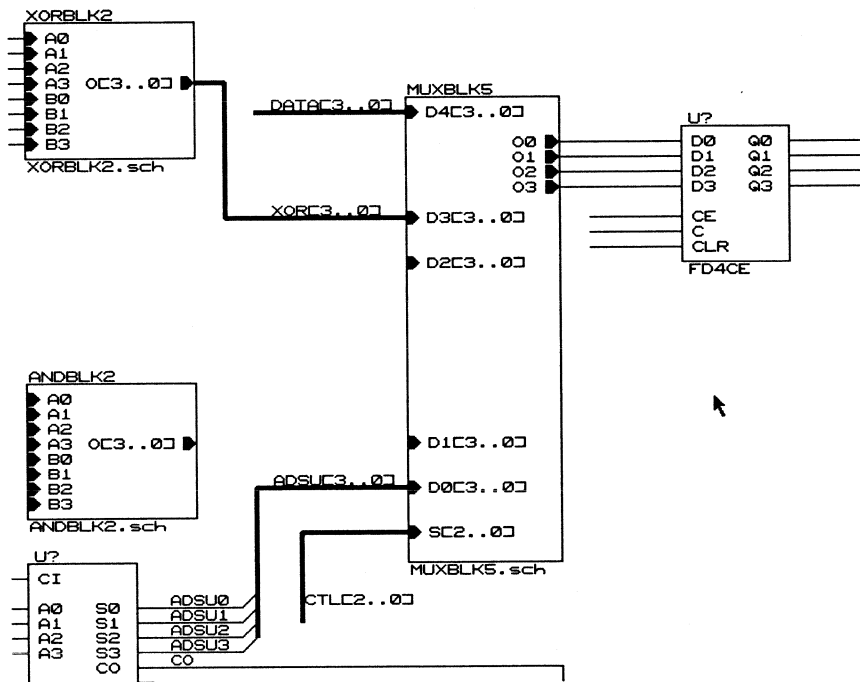

Figure 11-8 FD4CE with Wires in ALU Schematic
The next step is to add the wires that connect the FD4CE symbol to the other signals on the schematic. Refer to Figure 11-8 for a drawing of the symbol with added wires.
4. Add dangling wires to the CE, C, and CLR pins. Refer to Figure 11-8 for approximate locations. You connect these wires later on in the tutorial by placing labels on them that correspond to label names on wires elsewhere in the schematic.
5. Add wires to the Q0, Q1, Q2, and Q3 pins as shown in Figure 11-8. Besides making internal connections, these wires leave the ALU schematic sheet by way of elements called module ports that you add later on in the tutorial.